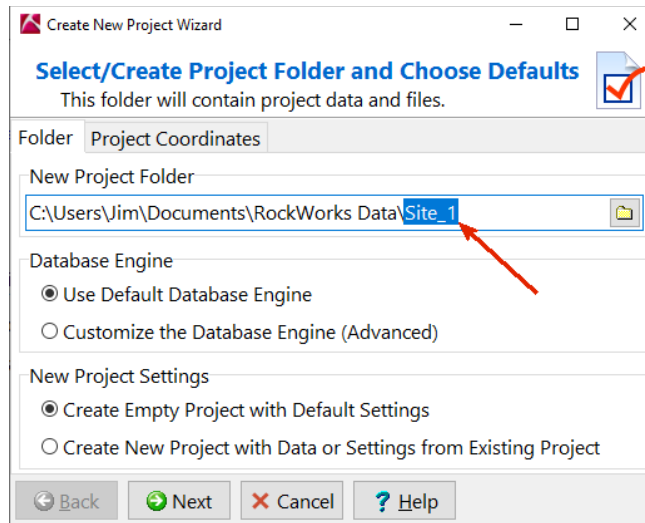

Figure 41
- Change the name of the *New Project Folder* to "Site_1" (Figure 41). Note: The details about creating new *Project Folders* can be viewed by clicking the *Help* button at the base of the *Create New Project Wizard* dialog.